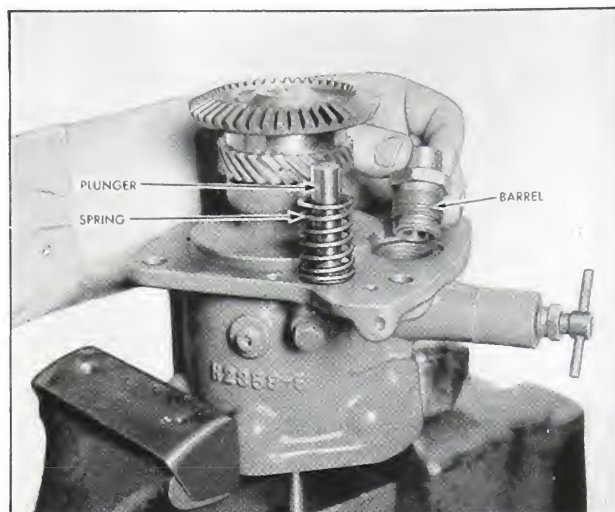

Fig. 5-22. Metering pump parts
5. Clamp the housing in a vise by gripping the edges as shown in Fig. 5-22. Remove the metering plunger and barrel after unscrewing the retaining nut.